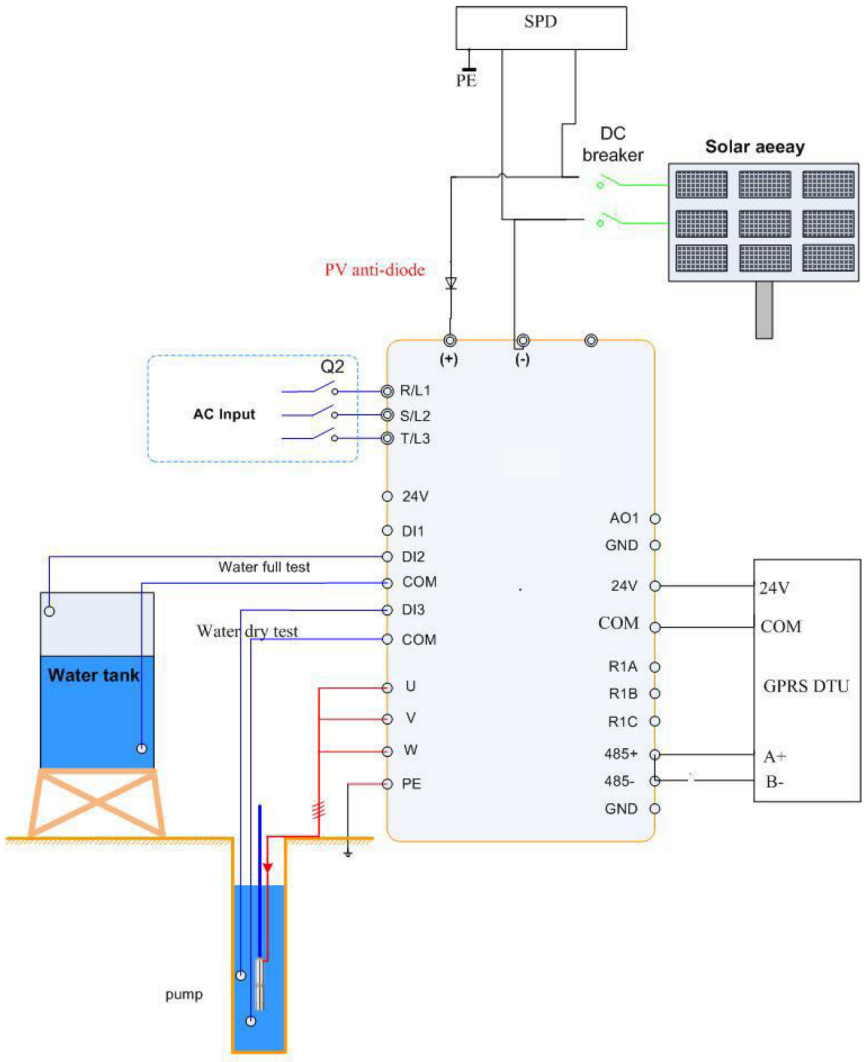

Figure 3-2 Reference wiring diagram for power supply and solar panels when powered separately
- (1) According to the wiring diagram, disconnect the Q2 first and then close the Q1, which is consistent with Figure 3.2.
- (2) Set parameter the motor
- (3) debug the system according to 3.1 debugging steps 2, 3, 4, 5.
- (4) Close the DI4 terminal (or set up H3_00 =0)
- (5) when converting to solar power supply, it is necessary to disconnect the Q1, the terminal DI4 is disconnected, and the Q2 is closed.